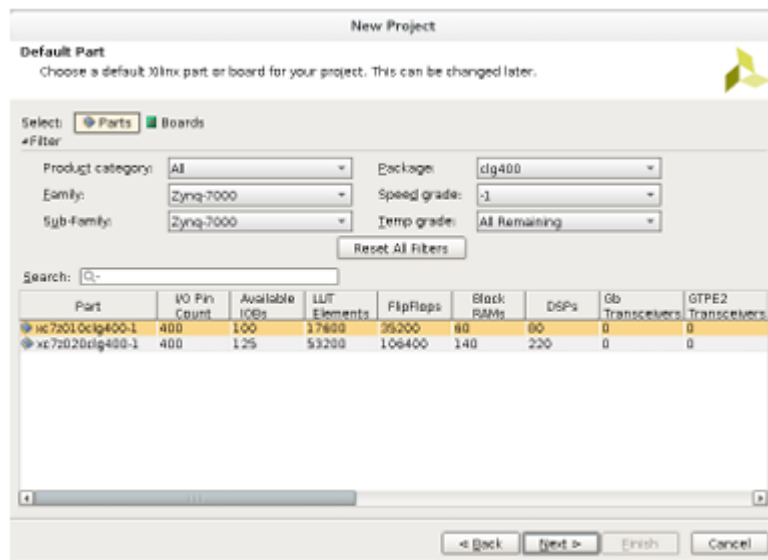

Figure 2: Device Properties
- Next, the 'Default Part' window appears (Figure 2). We can select our hardware from the 'Parts' tab or from the 'Boards' tab. The 'Parts' tab lists Xilinx supported Parts(FPGAs) and the 'Boards' tab lists the supported boards. The ZYBO (Zynq Board) is an entry-level digital circuit development platform built around the Xilinx Zynq-7000 family, the Z-7010. The Z-7010 is based on the Xilinx All Programmable System-on-Chip (AP SoC) architecture, which integrates a dual-core ARM Cortex-A9 processor with a Xilinx 7-series Field Programmable Gate Array (FPGA) logic. In this lab and the next we will select the hardware from the 'Parts' tab and in the later labs we will select the hardware using the 'Boards' tab. Select the hardware using the following parameters.